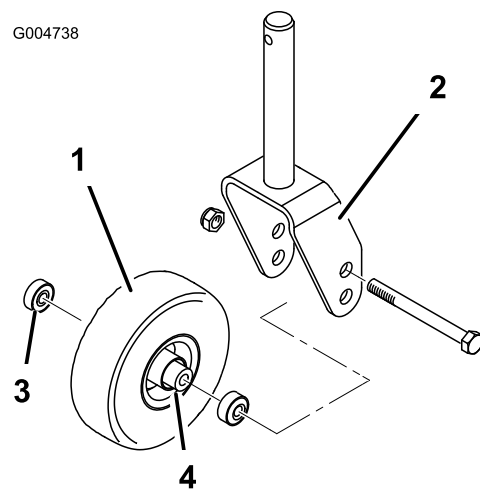
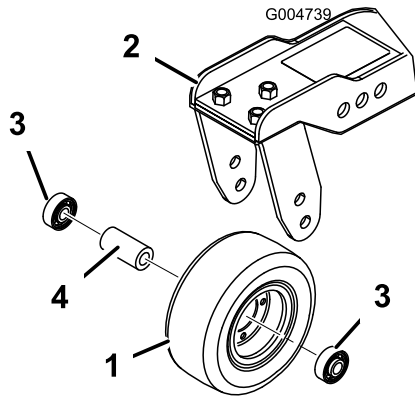

Figure 85
Figure 86
1. Remove the locknut from the bolt holding the castor wheel assembly between the castor fork (Figure 85) or the castor pivot arm (Figure 86). Grasp the castor wheel and slide the bolt out of the fork or pivot arm.
2. Remove the bearing from the wheel hub and allow the bearing spacer to fall out (Figure 85 and Figure 86). Remove the bearing from the opposite side of the wheel hub.